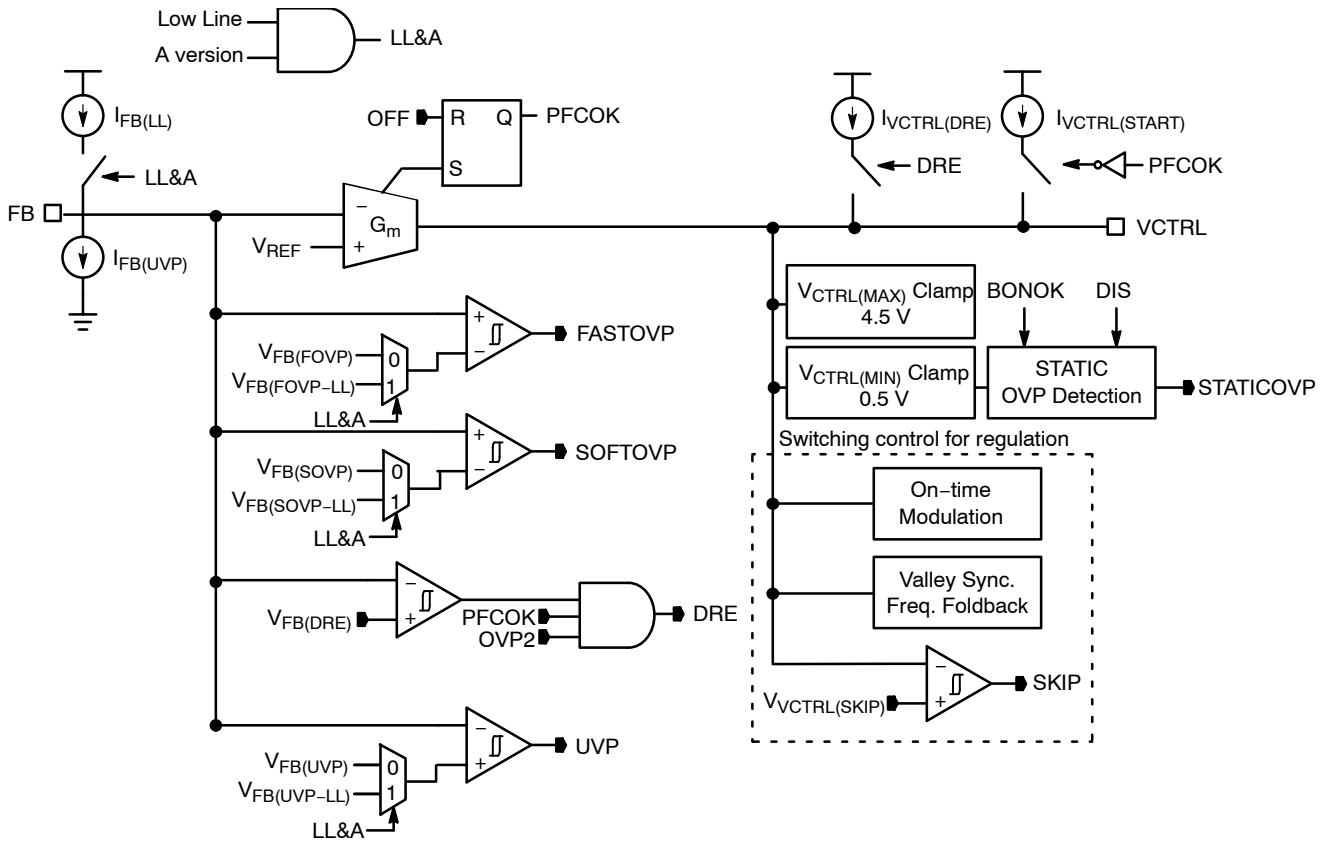
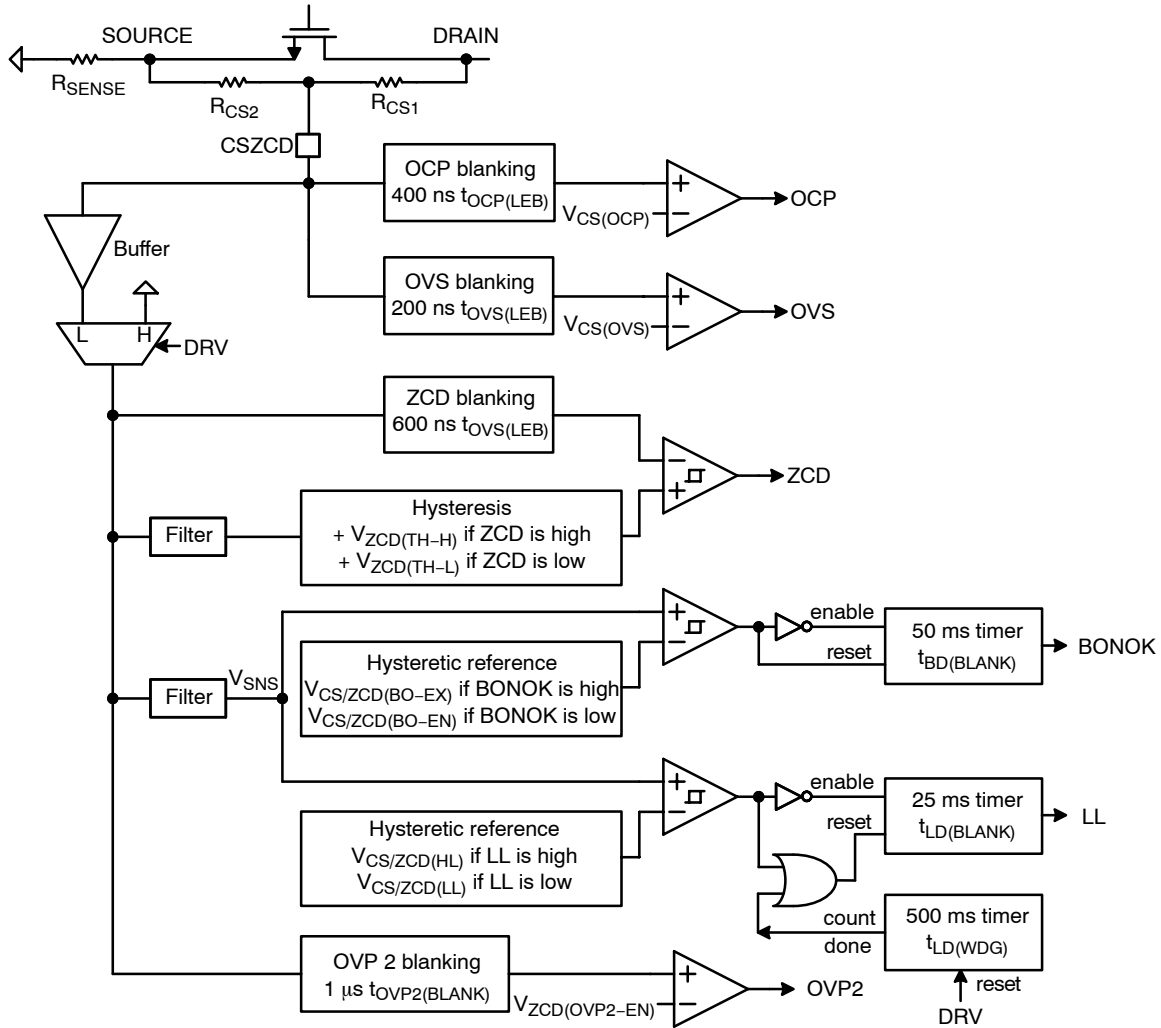

Figure 6. Feedback Regulation and Transient Control
Figure 7. CS/ZCD Internal Circuit Block
A trans-conductance error amplifier (OTA) with access to the inverting input and output is provided as shown in Figure 6. It features a FB reference voltage for output voltage regulation of 2.5 V, a typical trans-conductance gain of 200 μS and a maximum capability of about $\pm 20 \mu\text{A}$ OTA output current. The VCTRL pin is the output of the error amplifier for external loop compensation. Typically, a type-2 network is applied between the VCTRL pin and ground to set the regulation bandwidth below about 20 Hz. VCTRL basically controls turn-on time, dead time in VSFF, skip mode and STATICOV:
The NCP1623 embeds a “Dynamic Response Enhancer” (DRE) that deals with the under-shoots of the output voltage at abrupt increases of the load current. An internal comparator monitors the FB pin and when this voltage is lower than $95.5\% V_{REF}$, a $200 \mu A$ $I_{VCTRL(DRE)}$ is sourced to speed up the charge of the compensation network as shown in Figure 6. Effectively this appears as a 10x increase in the loop gain. DRE is disabled during the start-up sequence until the PFC stage has stabilized and PFCOK is high. DRE is also disabled when the OVP2 (Second Over Voltage Protection) is triggered.
In case of output over-shoots, soft OVP is firstly triggered by comparing FB voltage and a soft OVP threshold, $V_{FB(SOVP)}$ as in Figure 6. Once the soft OVP is triggered, the turn-on time is gradually decreased in 4 to 5 switching periods to smoothly reduce powering. If FB voltage is even
As illustrated in Figure 7, the CS/ZCD pin provides the input signal for the following functions:
low-line (LL) detection is set longer than a half-line cycle but not that long to quickly detects an abrupt line transient from high to low. When the line changes from low to high and V_{SNS} is over $V_{CS/ZCD(HL)}$, high line mode is immediately entered. When high-line is detected (that is, when signal “LL” of Figure 7 is low), the loop gain, $t_{ON} / (V_{CTRL} - V_{CTRL(MIN)}) \mu s/V$, is divided by about 2.5 to ensure a 2-level feedforward.
As shown in Figure 7, when V_{SNS} is lower than the brown-out enter voltage ($V_{CS/ZCD(BO-EN)}$) for BO blanking time (50 ms $t_{BO(BLANK)}$), BONOK signal is high and the drive is not immediately disabled. Instead, a 30 μA current source ($I_{VCTRL(BO)}$) gradually reduces V_{CTRL} . As a result, the circuit keeps generating DRV pulses until the STATICOVV trips (that is when V_{CTRL} reaches the minimum clamp level, 0.5 V $V_{CTRL(MIN)}$ as shown in Figure 6). This method relieves the risk of input voltage bouncing the fault line detection caused by EMI filter oscillation from an abrupt DRV stop.
Similar to power reducing sequence in brown-out, the drive is not immediately disabled and 30 μA current source gradually reduces V_{CTRL} until the STATICOVV function trips in Figure 6. The DIS sleep mode is maintained until the DIS pin is externally pulled down below the DIS sleep mode exit voltage ($V_{DIS(EX)}$, 0.8 V minimum).